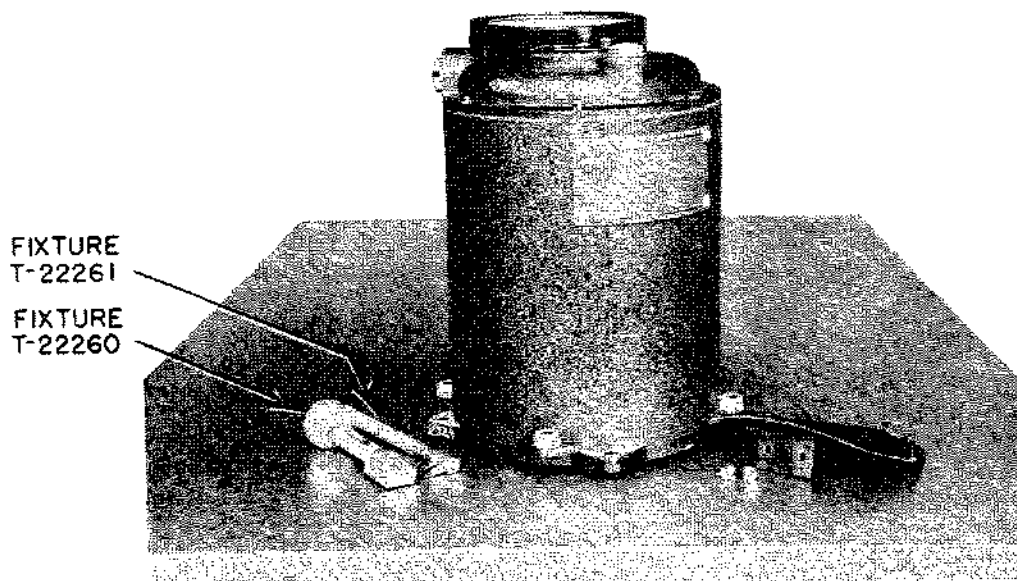

FIGURE 11 INSTRUMENT RESTING ON ITS FRONT COVER TO PROTECT POINTER BAR WHILE REAR COVER IS BEING REMOVED
4. Place the instrument face down on its front cover to protect the pointer bar as shown in Fig. 11.